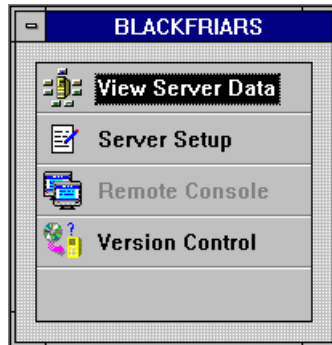

Figure 6-5. Selecting an option in the Server Task List window
3. Select the *Task* button on the Server window. The Server Task List window is displayed with four options as shown in Figure 6-5.